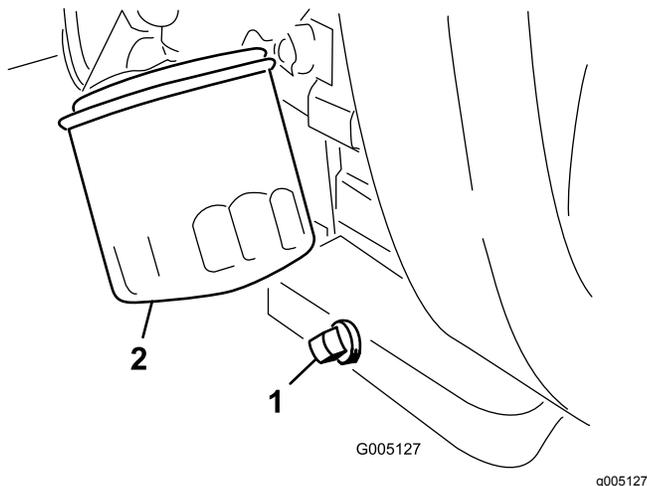

Figure 37
1. Remove the drain plug (Figure 37) and let the oil flow into a drain pan.
2. Clean the threads of the drain plug, apply PTFE sealant, and install the drain plug (Figure 37).
3. Remove the oil filter (Figure 37).